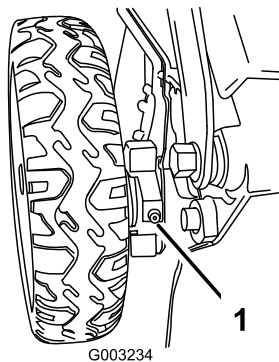

Figure 37
1. Wipe the grease fittings just inside the rear wheels with a clean rag (Figure 37).